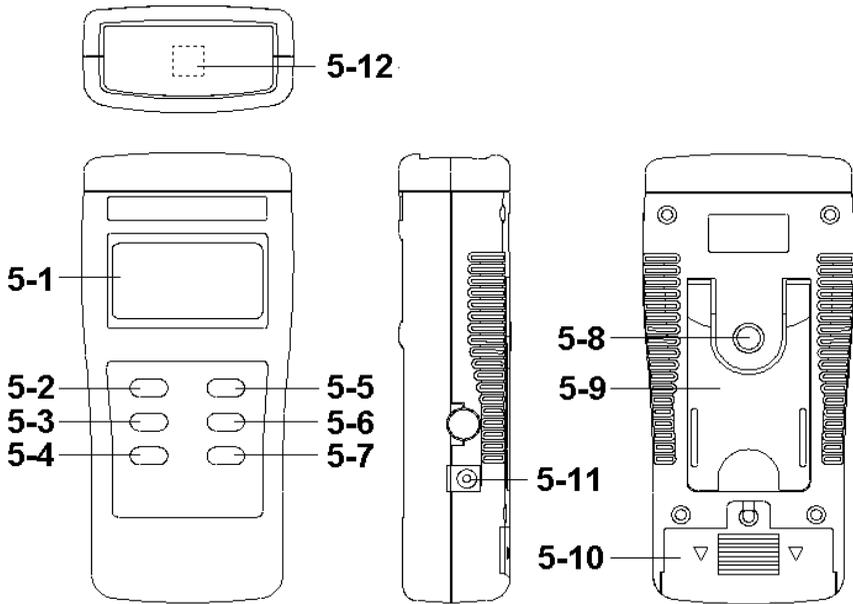

Fig. 1
( 5-2, Fig. 1 ) once.
( 5-5, Fig. 1 )
( 5-6, Fig. 1 )
- 2) With the tester in hand, move slowly towards to the object under measurement until it is physically touched. The upper Display ( 5-1, Fig. 1 ) will present the EMF measurement value.
- \* *EMF Sensor Position is in the area of " 5-13 , Fig. 1 " .*
During the measurement, press the " Hold Button " ( 5-4, Fig. 1 ) once will hold the measured value & the LCD will display a " HOLD " symbol.
\* The data record function records the maximum and minimum readings. Press the " REC Button " ( 5-3, Fig. 1 ) once to start the Data Record function and there will be a " REC " symbol on the display.
a) Press the " REC Button " ( 5-3, Fig. 1 ) once, the " REC MAX " symbol along with the maximum value will appear on the display.
If intend to delete the maximum value, just press the " Hold button " ( 5-4, Fig. 1 ) once, the display will show the " REC " symbol only & execute the memory function continuously.
b) Press the " REC button " ( 5-3, Fig. 1 ) again, the " REC. MIN. " symbol along with the minimum value will appear on the display.
If intend to delete the minimum value, just press the " Hold button " ( 5-4, Fig. 1 ) once, then the display will show the " REC " symbol only & execute the memory function continuously.
During the measurement, the LCD backlight will On. If press the " Backlight Button " ( 5-7, Fig. 1 ) once, the LCD backlight will be switched to Off.
To de-activate this feature, Select the memory record function during measurement by pressing the " REC Button " ( 5-3, Fig. 1 ).
- 2) Slide the " Battery Cover " ( 5-10, Fig. 1 ) away from the instrument and remove the battery.